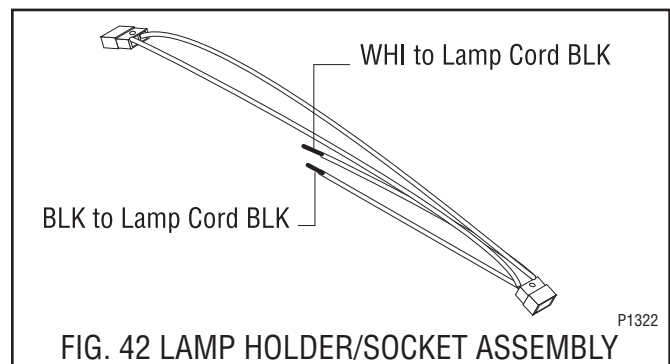

FIG. 42 LAMP HOLDER/SOCKET ASSEMBLY WIRES
14. Refer to Fig. 42 when reconnecting the wires.